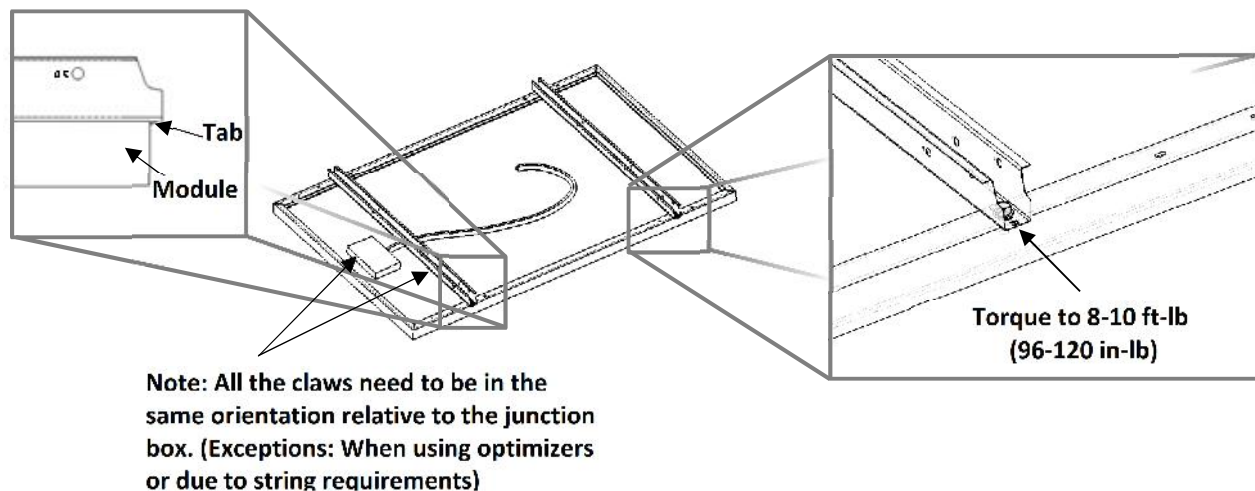

Figure 1 Claw Placement on Module
- 1.5. Press Claw tab against module frame and tighten bolt to 8-10 ft-lb (96-120 in-lb) of torque (Figure 1).